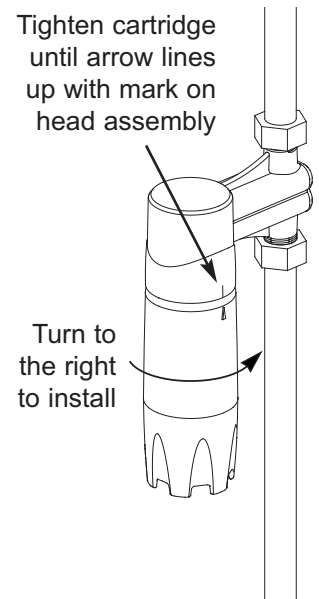

FIG. 3
5. Make sure that the filter cartridge is fully installed, so that the arrow lines up with the mark on the head assembly (See Fig. 3 on the next page).
**IMPORTANT:** Tighten the filter cartridge until the arrow lines up with the mark on the head assembly. (See Fig. 3).